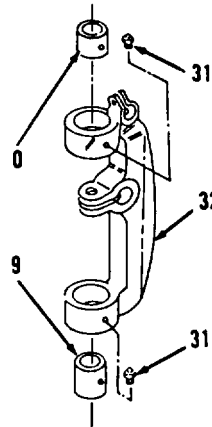

Figure 5-102.
10. Install two fittings (31) in arm (32, Figure 5-102) on right, front of vehicle.
11. Using assembled spacer, nut, pulling adapter, washer, nut, puller assembly and pump group, install bearing (30) flush with lower surface of collar on arm (32).
12. Install bearing (29) flush with upper surface of collar on arm (32).